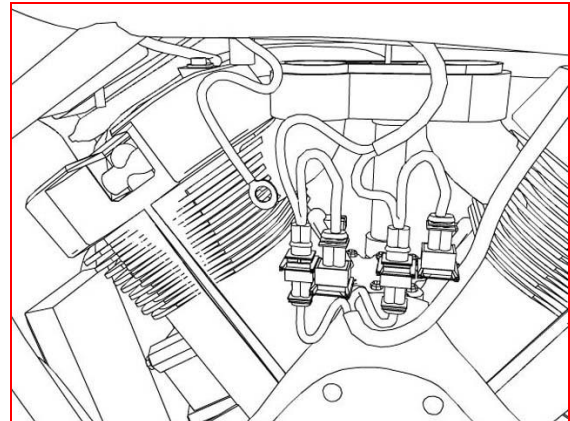

Figure 13
12. Connect the TFI harness to the stock harness. Pay attention to the color-coding. The TFI harness with the yellow and white leads is for the front injector. It is essential the connectors be installed properly at the front and rear injectors. (see figure 13)